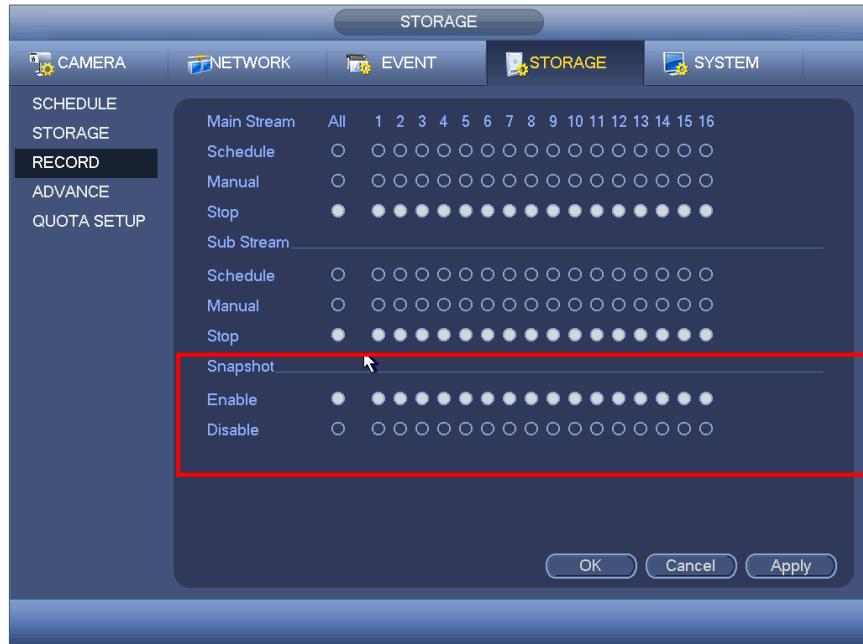

Figure 4-114
- On the preview interface, right click mouse and then select Manual->Record, or in the main menu, from Setting->Storage->Record, check the box to enable snapshot function of corresponding channels. See Figure 4-114.